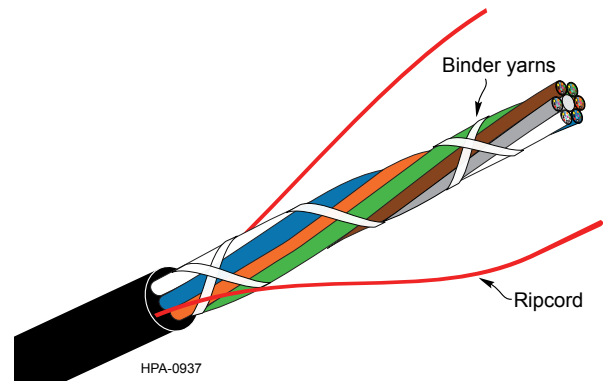

Figure 5
Step 7: With your fingers, remove the split pieces of outer jacket at the end of the cable to expose the ripcords and cable binder yarns (Figure 5).